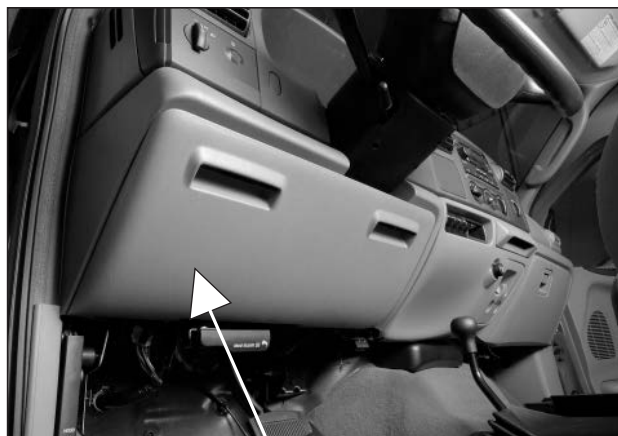

Figure 4
- b. All Others - Ford wiring is located behind the customer access panel located directly under the steering column (Fig. 4).